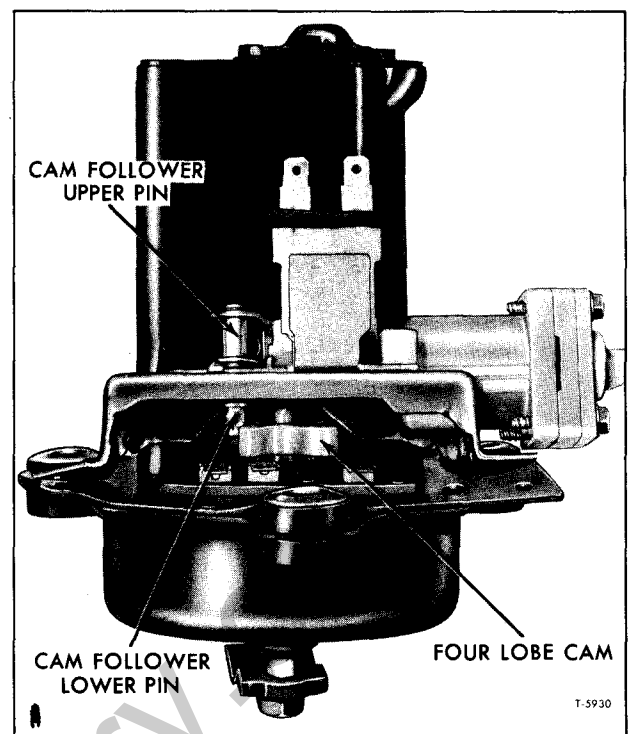

Figure 18—Separating Pump from Motor
2. Remove washer pump drive cam (fig. 18). Cam is pressed on shaft but may be removed by carefully wedging two screwdrivers between cam and plate.